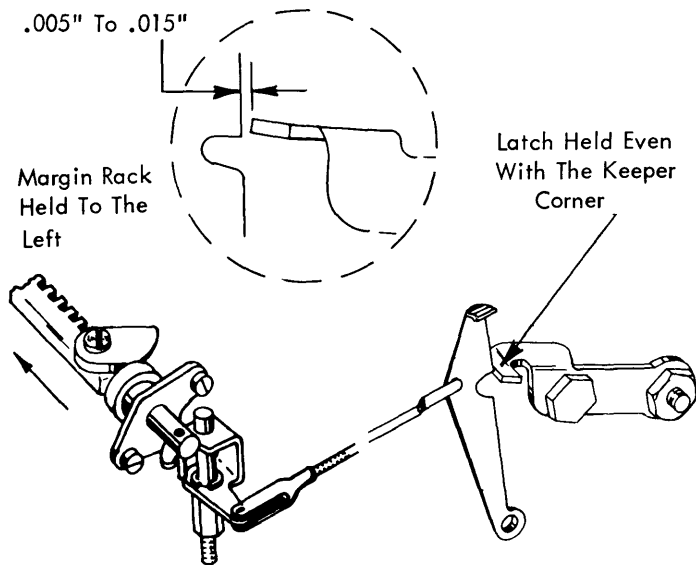

FIGURE 140. Clutch Unlatching Adjustment
9. Clutch Unlatching - With either style margin rack held to its extreme left position, the carrier return latch keeper should clear the latch by .005" to .015" at the unlatching point (Fig. 140). Check by manually holding the latch at the unlatching point while the machine is idling. Lengthen or shorten the carrier return unlatching link to obtain this clearance.